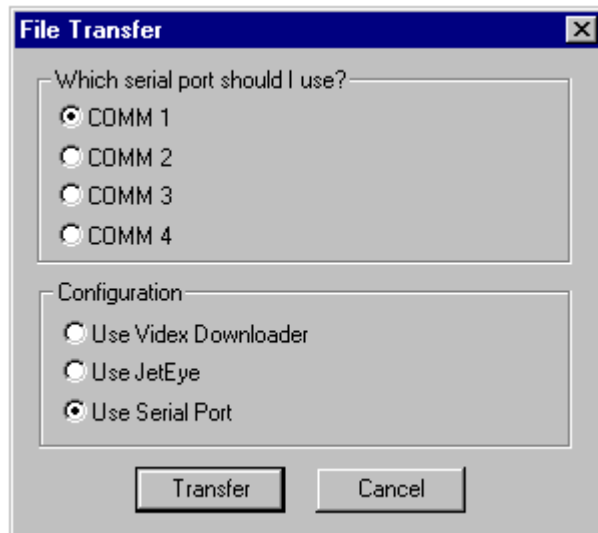

Figure 1-11 File Transfer Window
11. The **File Transfer** window (Figure 1-11) is displayed. If you are using a Base Station, select the serial port it is connected to and the **Use Vindex Downloader** configuration. If you are using an external IR station, select the serial port it is connected to and the **Use Serial Port** configuration.